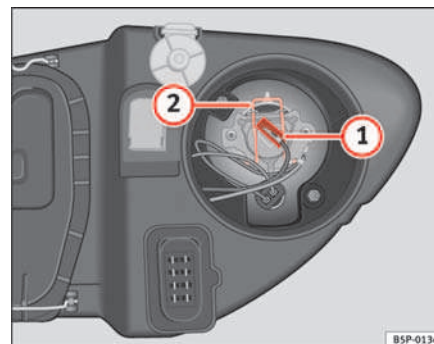

Fig. 178 Main beam headlights
- Remove the connector ⇒ fig. 178 ① from the lamp.
- Press the spring ⇒ fig. 178 ② inwards and to the right.